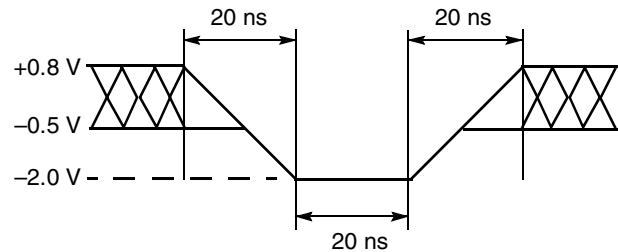
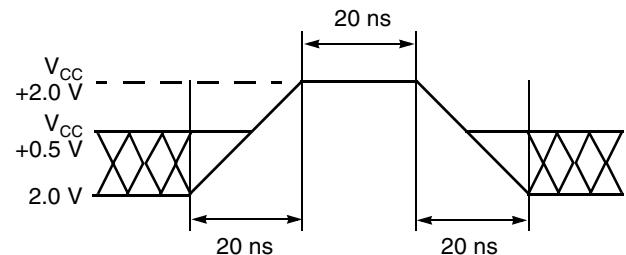

Figure 8. Maximum Negative Overshoot Waveform
Figure 9. Maximum Positive Overshoot Waveform
1. Minimum DC voltage on input or I/O pins is -0.5 V . During voltage transitions, input or I/O pins may overshoot V_{SS} to -2.0 V for periods of up to 20 ns. Maximum DC voltage on input or I/O pins is $V_{CC} + 0.5\text{ V}$. See Figure 8. During voltage transitions, input or I/O pins may overshoot to $V_{CC} + 2.0\text{ V}$ for periods up to 20 ns. See Figure 9.
2. Minimum DC input voltage on pins RESET#, and WP#/ACC is -0.5 V . During voltage transitions, WP#/ACC, and RESET# may overshoot V_{SS} to -2.0 V for periods of up to 20 ns. See Figure 8. Maximum DC input voltage on pin RESET# is $+12.5\text{ V}$ which may overshoot to $+14.0\text{ V}$ for periods up to 20 ns. Maximum DC input voltage on WP#/ACC is $+9.5\text{ V}$ which may overshoot to $+12.0\text{ V}$ for periods up to 20 ns.